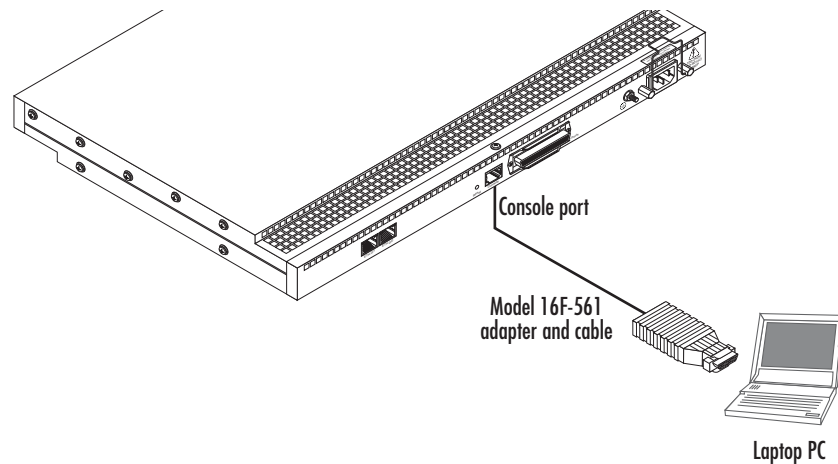

Figure 14. Connecting the SmartNode to your laptop PC
1. **Configuring the desired IP address** (see figure 14). Refer to section “2. Connecting the SmartNode to the network” on page 39 for details.